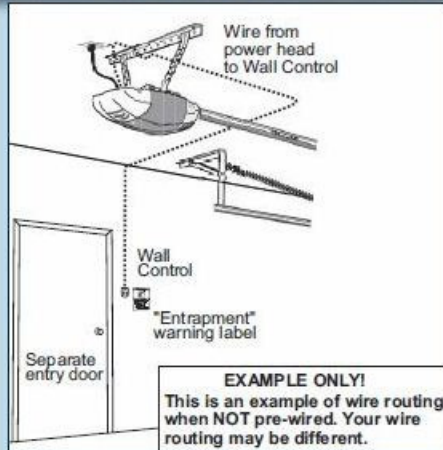

FIG. 3-1 Wall Control wire routing
- Locate Wall Control pre-wired wire ends (Fig. 3-1). (They should be located within the guidelines mentioned above.)
- Pick a convenient location for mounting Wall Control using the guidelines mentioned above (Fig. 3-1).
- Run wire from power head to Wall Control (Fig. 3-1).